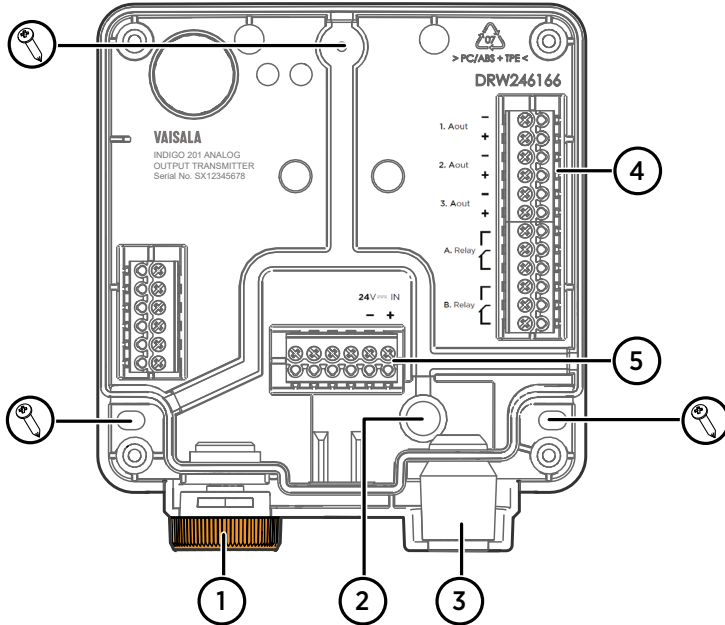

Figure 3 Indigo 201 transmitter base main parts and mounting screw positions
5. Place the transmitter base on the installation surface and mount it with 3 screws. See the screw positions in Figure 3 \(page 9\).